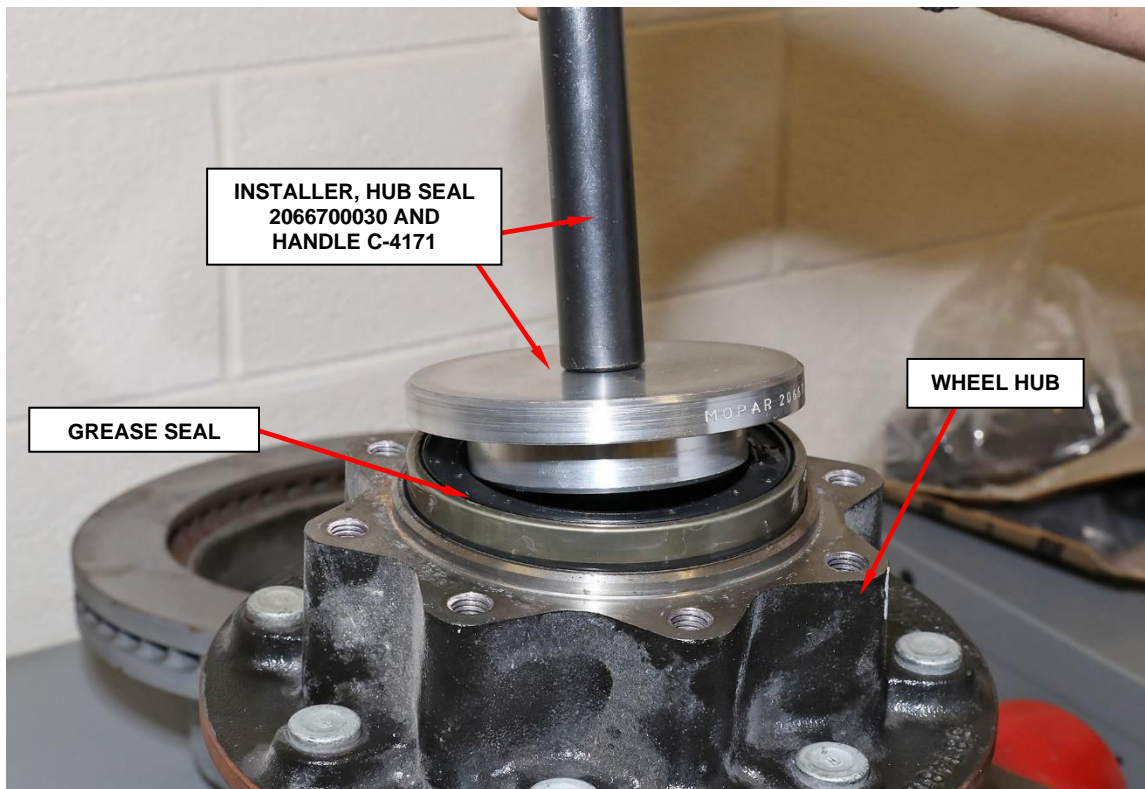

Figure 15 – Grease Seal Installation
22. Install **NEW** grease seal with **Installer, Hub Seal 2066700030** and **Handle C-4171** for 12.0” Ring Gear or **Installer, Hub Seal 8963** for 11.5” Ring Gear (Sales Code DRC = 12.0”) (Sales Code DRX=11.5”) (Figure 15).